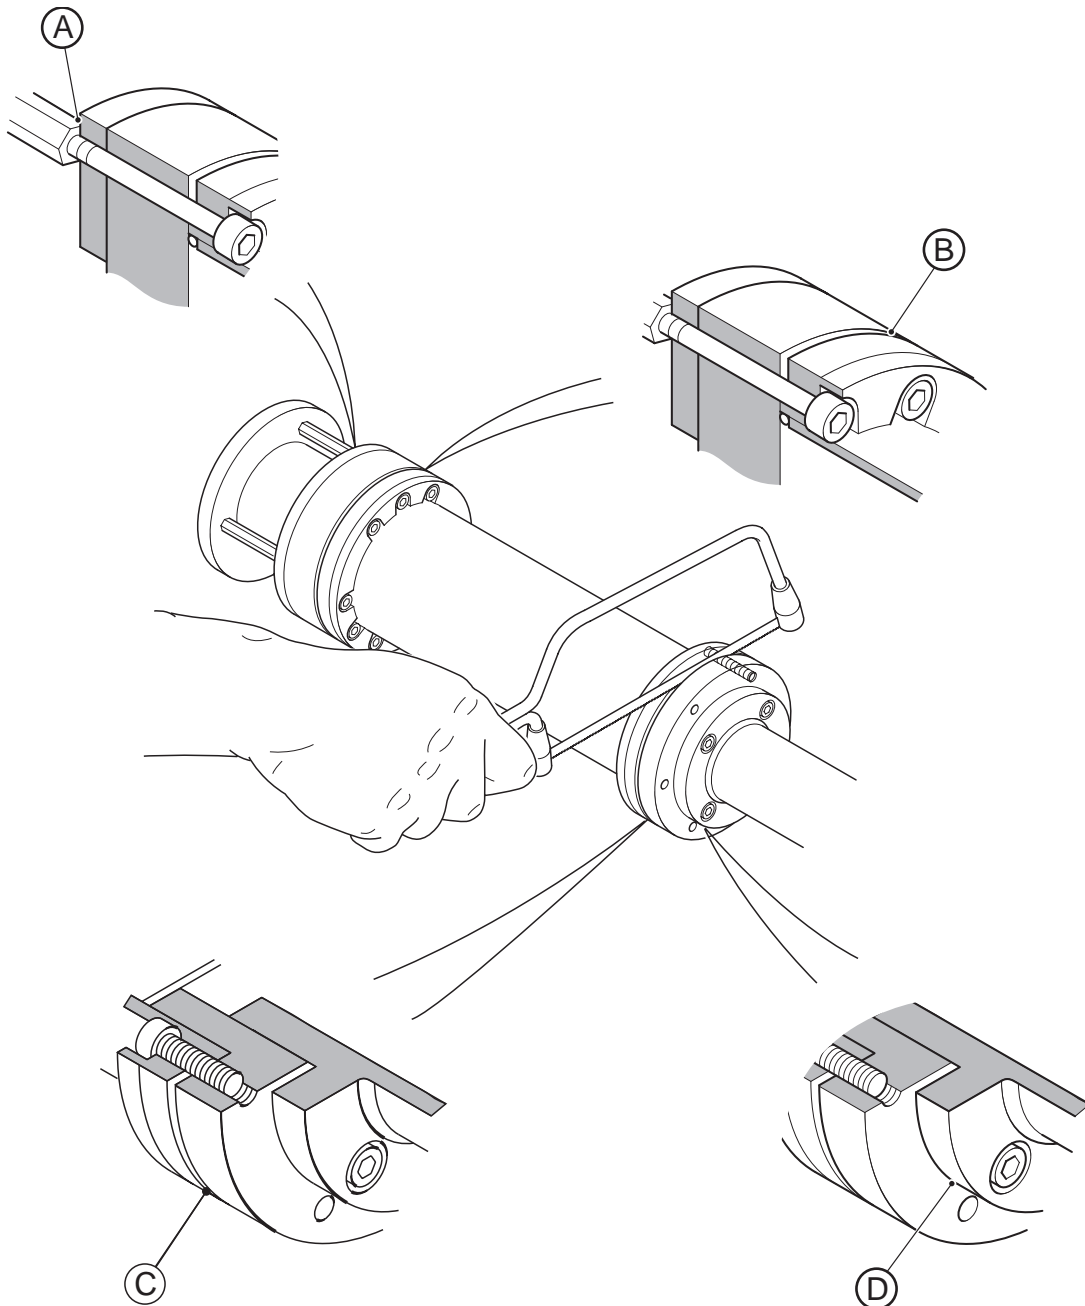

Fig. 8.15 Cutting and Removing Seized Screws
8.7 Removing Seized Screws – Fig. 8.15